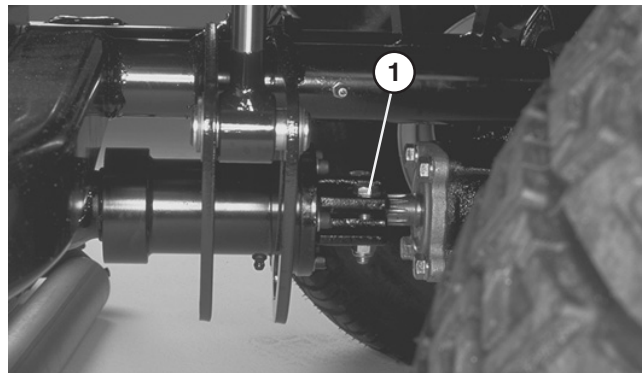

Figure 10
11. Slide clutch end of drive shaft onto rear axle shaft spline (Fig. 10).
12. Tighten (2) capscrews and locknuts securing coupling to shaft (Fig. 10).
13. Slide yoke end of drive shaft onto traction shaft spline (Fig. 10).
14. Tighten (2) cap screws and locknuts securing yoke to shaft.